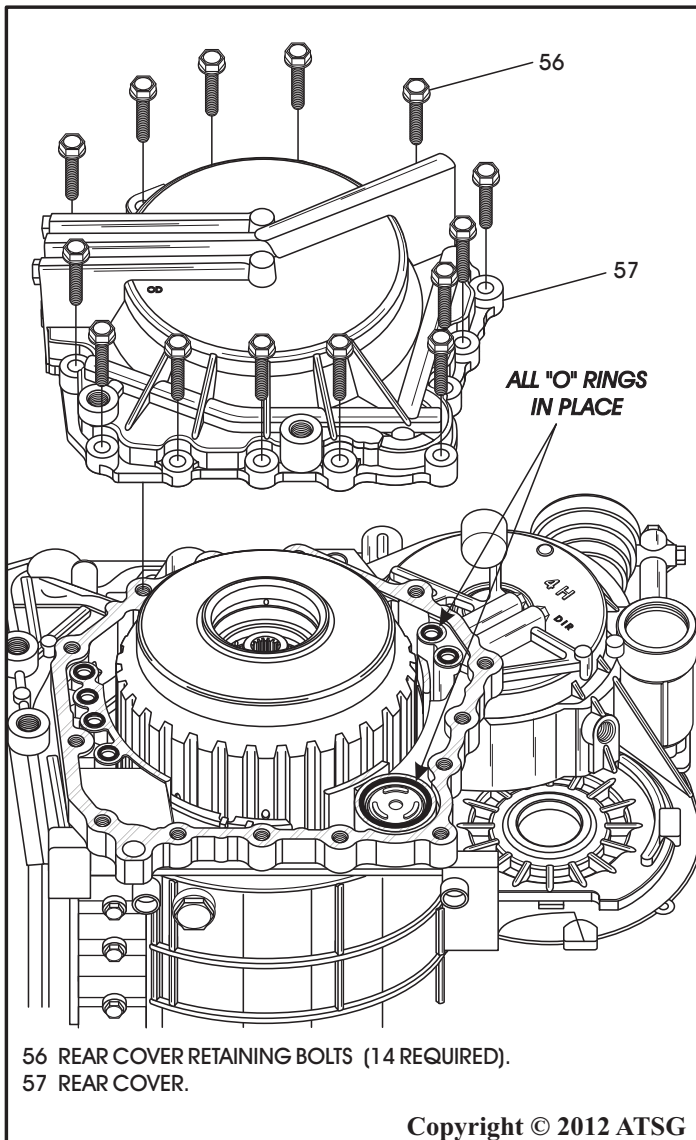

Figure 272
67. Ensure that all 7 \"O\" ring seals are in place in their pockets in case, as shown in Figure 272, and install the rear cover.
68. Install the 14 rear cover to case retaining bolts, as shown in Figure 272.